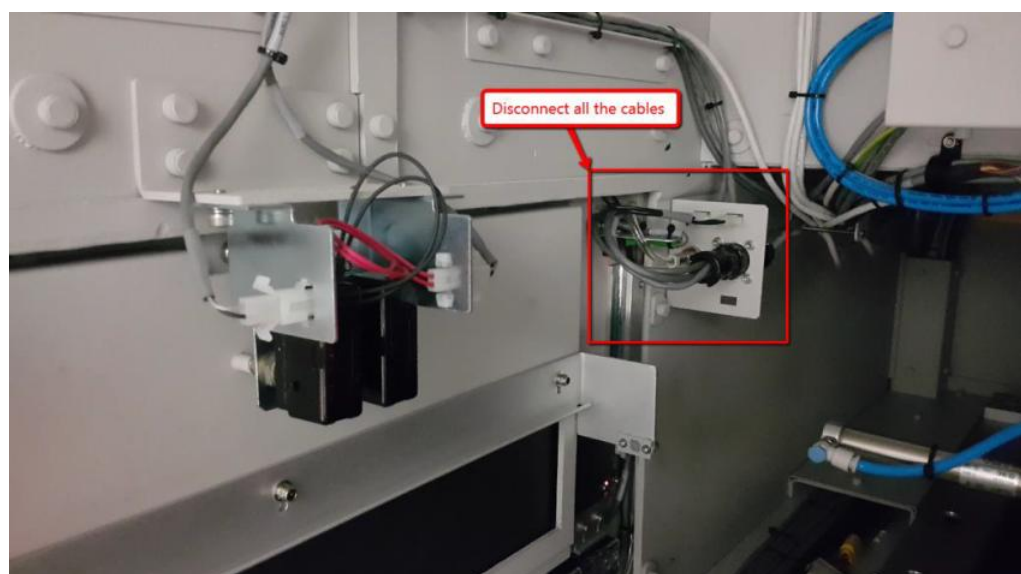

Figure 2
- i. Unplug all cables shown in Figure 2.